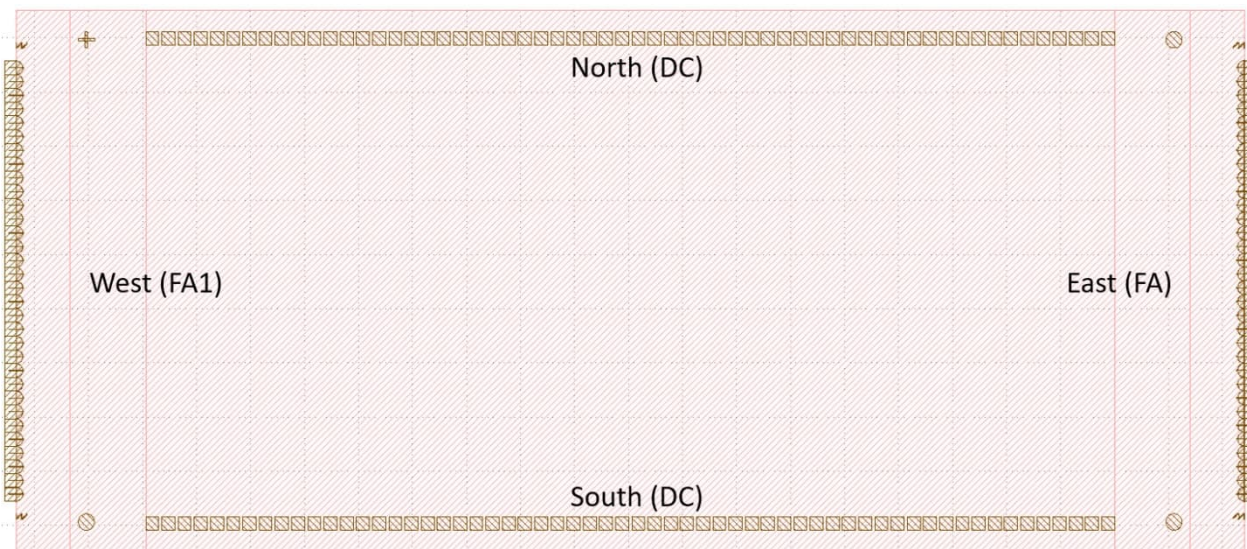

Figure 9: Definition of PIC orientation
It is a common standard within integrated photonics to use the north, south, east, and west naming for the various PIC edges as shown in figure 9. PHIX uses the west and east sides for the optical interfaces, with east (FA) being the primary interface for fiber arrays. The north and south are reserved for electrical (DC) bond pads.